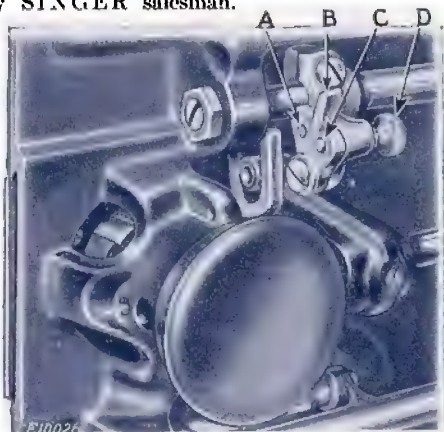

FIG. 31. ADJUSTMENT FOR DARNING OR EMBROIDERING
Turn the machine back on its hinges. Unscrew the thumb screw (D, Fig. 31), which is located in the lower hole (C) in the feed lifting crank (B). Move the feed lifting crank (B) down so that the thumb screw (D) will enter the proper hole (A). Having inserted the screw in this hole, tighten it firmly. The feed is thus rendered inoperative and will not interfere with the free movement of the work. Bring the machine forward into place.
When you have finished the darning or embroidery, raise the presser bar lifter and replace the presser foot. Turn the machine back on its hinges and replace and firmly tighten the thumb screw (D) in the lower hole (C) in the feed lifting crank (B) as shown in Fig. 31. Bring the machine forward into place and it is ready for regular stitching.